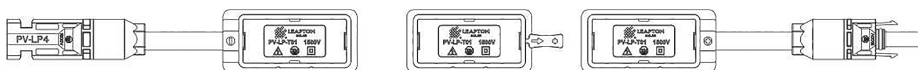

Figure 14: Half cells / Transparent backsheet solar module junction box
8) Define the length of the junction box cables as (different installation methods correspond to different cable lengths for different solar module types), or as required by customers on the length of the cable. As shown in Figure 14 below, please consider the length of the lead wire before designing the cable. It is not recommended to plug different types of connectors.